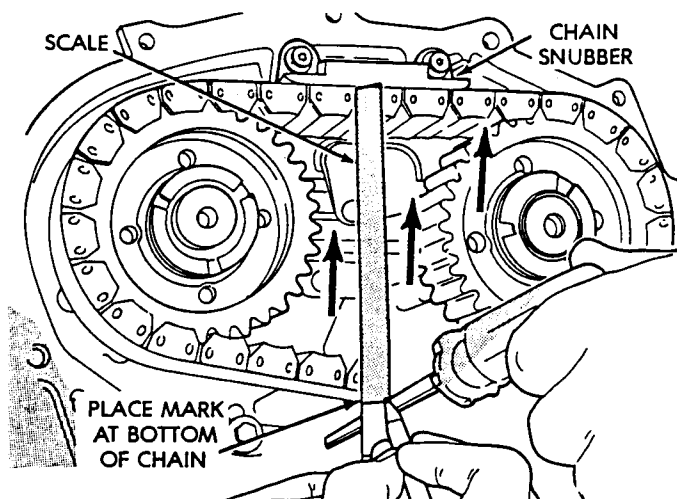

Fig. 4 Chain Measurement
- (5) Pry the chain up at the center of the chain.
- (6) Butt a scale against the snubber and place a second mark on the scale at the bottom of the chain (Fig. 4).